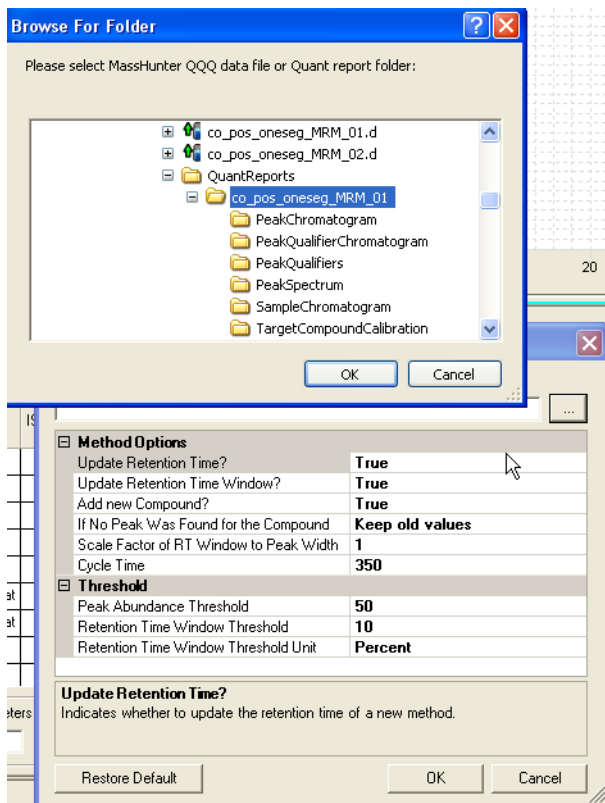

Figure 34 Navigation to Quant Report folder. Select the Quant report folder of the data file to be used to update the method.
- b In the Dynamic MRM Update Options dialog box (Figure 13 on page 25), click the Browse button (...) and select the Quant folder (inside of the data folder) of the manual report that was generated as shown in Figure 34.